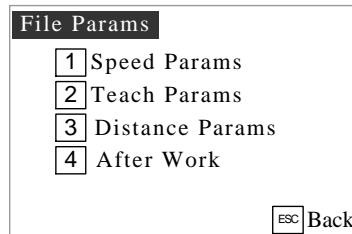

Fig. 3-40: Teaching File Parameters Manage Interface
3. In teaching file manage interface, press “ File Params” button into the teaching parameters manage interface (Fig. 3-40).